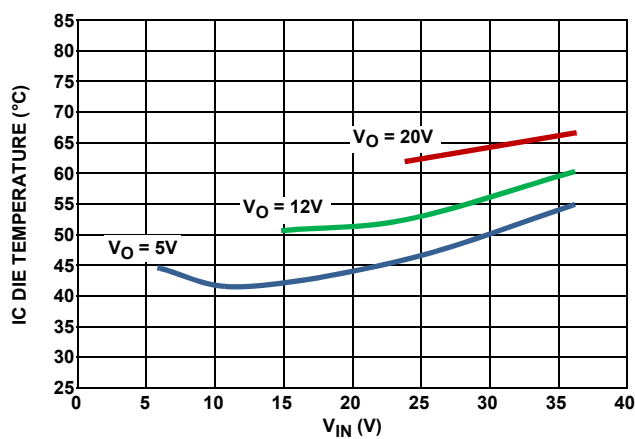

FIGURE 10. IC DIE TEMPERATURE UNDER $+25^\circ C$ AMBIENT TEMPERATURE, STILL AIR, 500kHz, $I_O = 2A$
- From the thermal perspective, the die temperature shouldn't exceed +125°C with the power loss dissipated inside of the IC. Figures 10 and 11 show the thermal performance of this part operating at different conditions.
Figures 10 and 11 shows 2A and 2.5A applications under +25°C still air conditions over V_{IN} range. The temperature rise data in these Figures can be used to estimate the die temperature at different ambient temperatures under various operating conditions. Note that more temperature rise is expected at higher ambient temperature due to more conduction loss caused by r_{DS(ON)} increase.